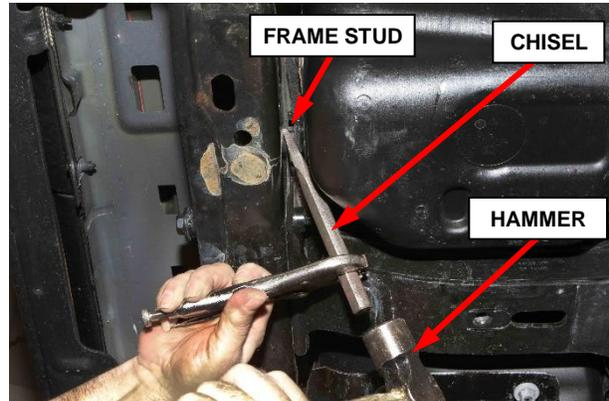

Figure 6 – Remove Frame Stud
1. Using a suitable chisel and hammer, cut the stud off as close to the frame as possible (Figure 6).